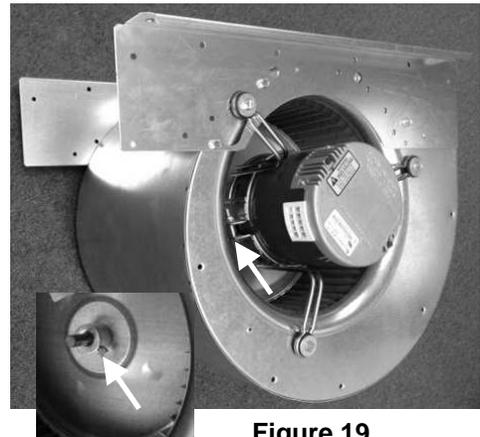

Figure 19
4. See Figure 19. Loosen shaft set screw (opposite motor side) and motor mount tightening screw until motor can be removed.
6. Slide coil & drain pan assembly out of the unit (Fig 19).